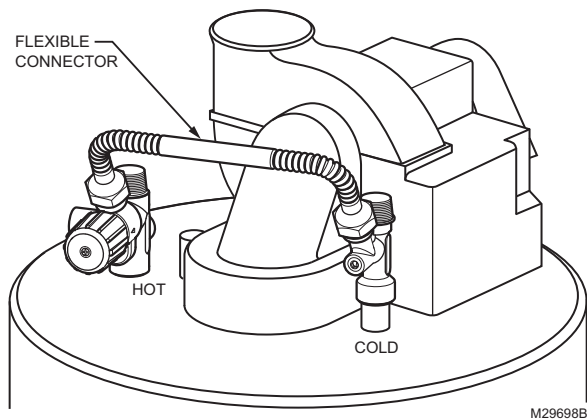

Fig. 7. Install flexible connector.
5. Install the flexible metal connector to the AMX300 mixing valve and cold water tee as shown in Fig. 7. Tighten flare connectors until leak tight. At this time the mixing valve kit should be leak tight.